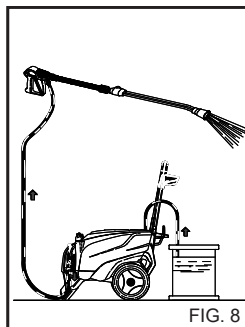

FIG. 8
After using a detergent, the detergent intake circuit must be flushed out with clean water (fig. 8).
1) After using with detergent, flush out the intake circuit; place the detergent suction hose (fig. 8) in a tank of clean water and let the pump run for 1 minute with the dosing tap turned fully on and the lance in detergent delivery condition.
4) After using with detergent, flush out the intake circuit; place the detergent suction hose (fig. 8) in a tank of clean water and let the pump run for 1 minute with the dosing tap turned fully on and the lance in detergent delivery condition.